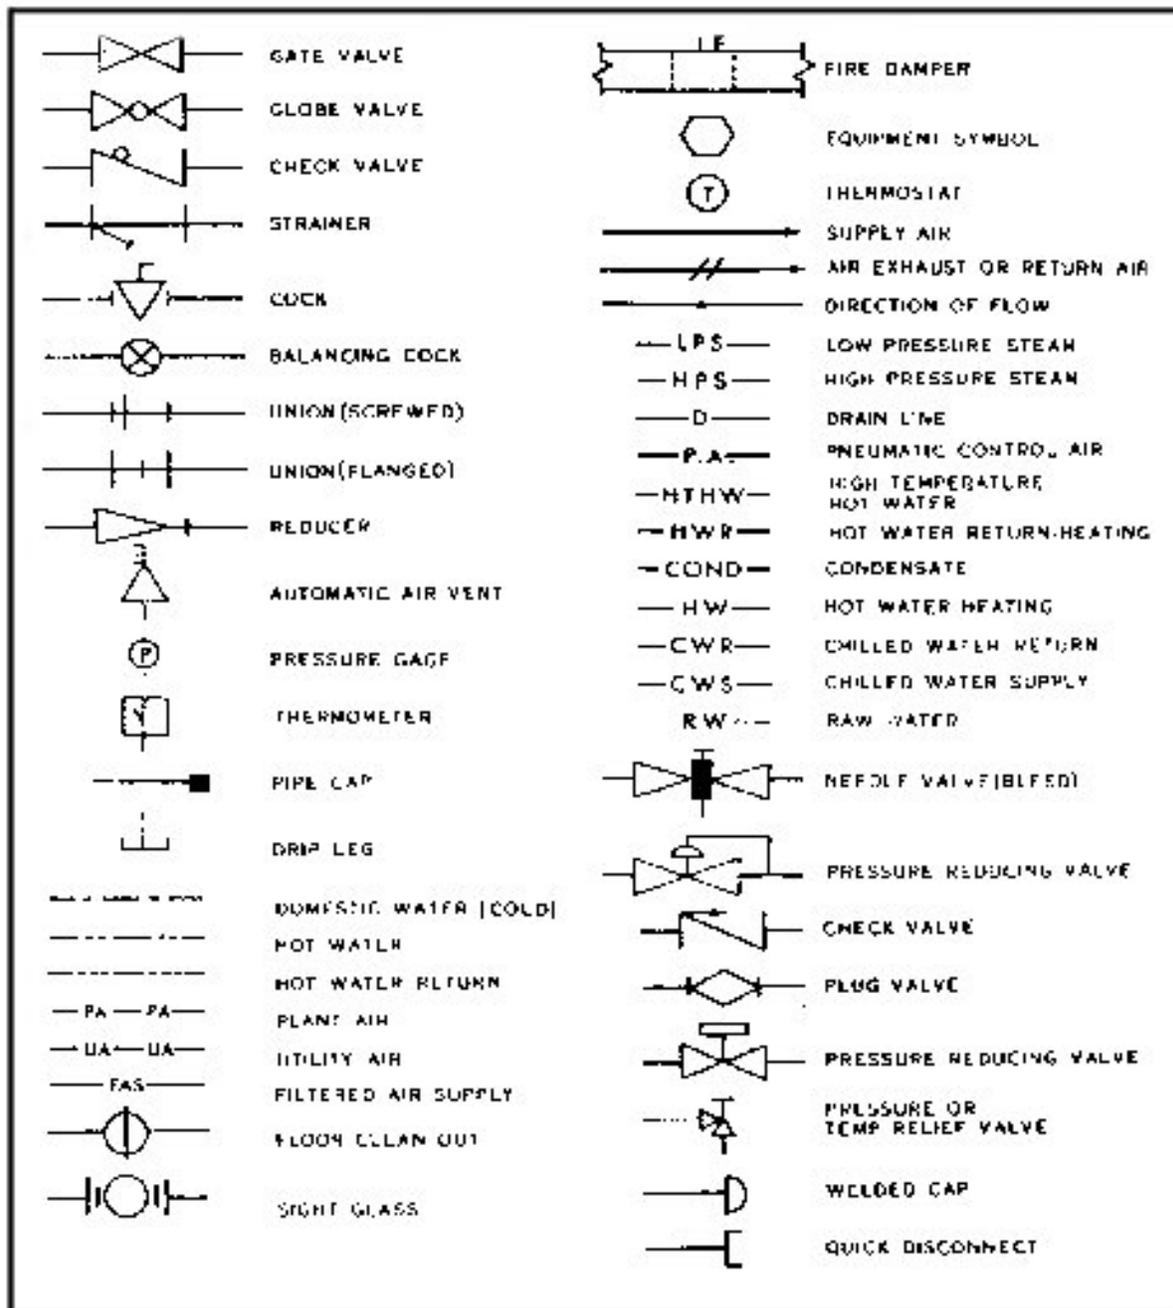

Figure 3. Symbols
5. Now go to Figure 2 and find examples of each line referred to. Study the drawing carefully, leaving no line unexplained. Also, study commonly used symbols in Figure 3.